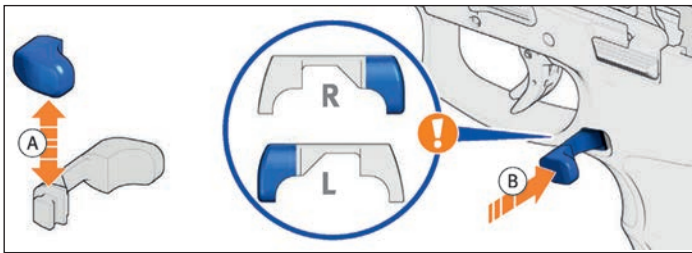

Figure 47 – Convert push button
3. With the latching clip held forward, place the disassembly tool in the rectangular cutout (detent) in the magazine catch and push upward slightly (Figure 47). This action releases the push button and allows it to be removed and reversed.